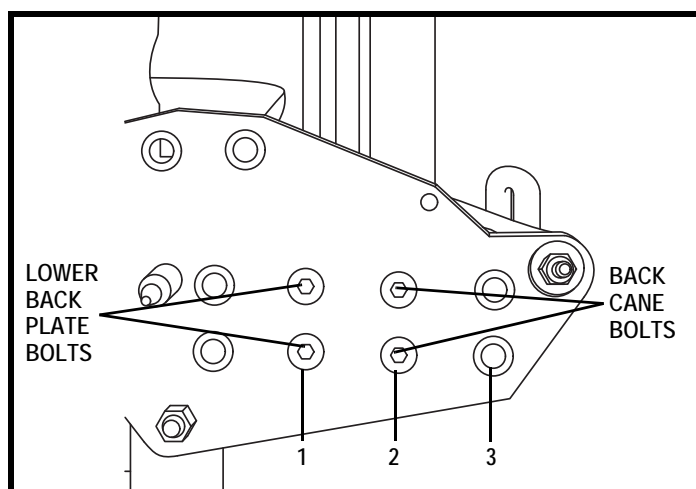

Figure 27. Kids FAST Back Cane Adjustment
To achieve proper seat depth, it may be necessary to adjust the position of the back canes. **See figure 27.**
3. Using a 5/32-in. hex wrench, remove bolts for lower back plate and bolts for back canes. Repeat on opposite side. **See figure 27.**